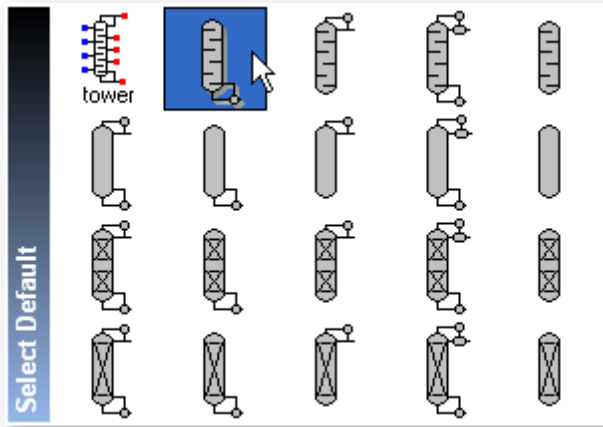

Figure 5: Selecting the appropriate Tower UnitOp icon
8. For the condensate stabilizer, use a distillation column. Multiple distillation UnitOps are available, but for now, assume that the module you want to use is the rigorous distillation model called *Tower*. You'll need a Tower icon with trays and a reboiler but no condenser; this is different from the default Tower UnitOp icon. Click the lower right corner of the Tower icon's box to view the sub-palette, then select the icon shown in Figure 5.